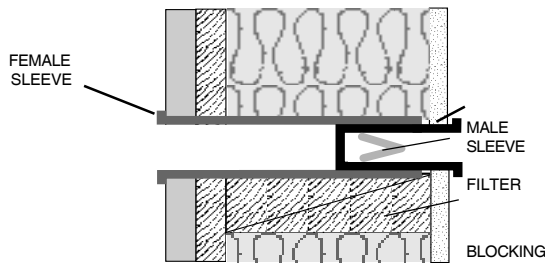

FIGURE 3
**2.1.5** Insert the male sleeve, with the filter installed, into the female sleeve. See figure 3.